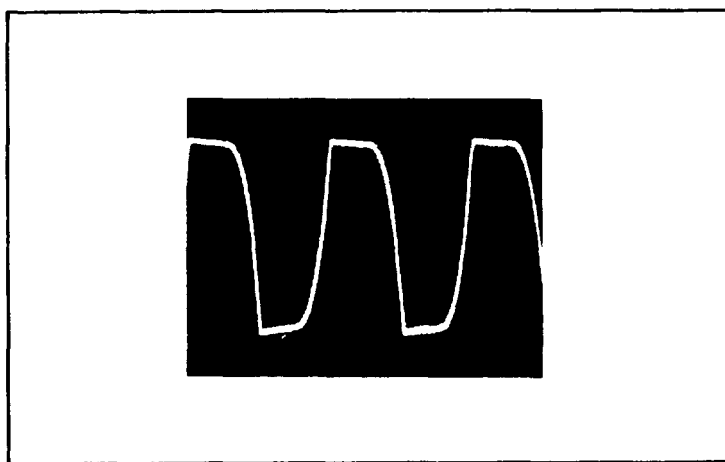

Figure 5-11. Search Waveform
- Attach oscilloscope probe to feedthrough capacitor C8 (see Figure 8-8) and set oscilloscope VOLTS/DIV to 0.2 and TIME/DIV to 5 msec. Search waveform should be as shown in Figure 5-11 with amplitude from 8.5 to 11.5 V pp.